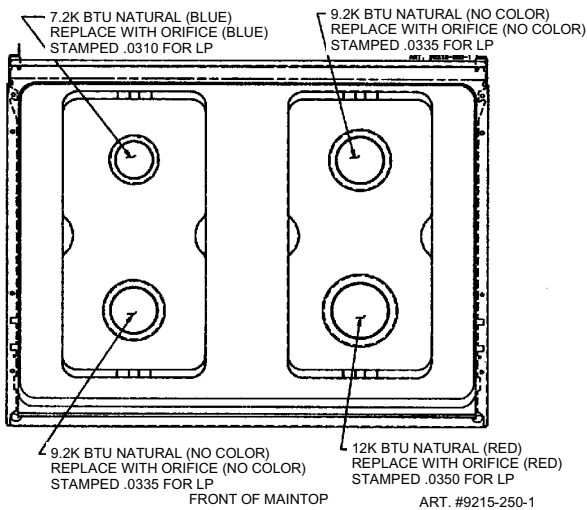

FIGURE 6
5. Place the corresponding orifice hood on the burner fitting according to figure 6. Turn the orifice hood clockwise by hand approximately one turn. Tighten the orifice hood clockwise with a 1/2" socket wrench approximately 2 1/2 turns.